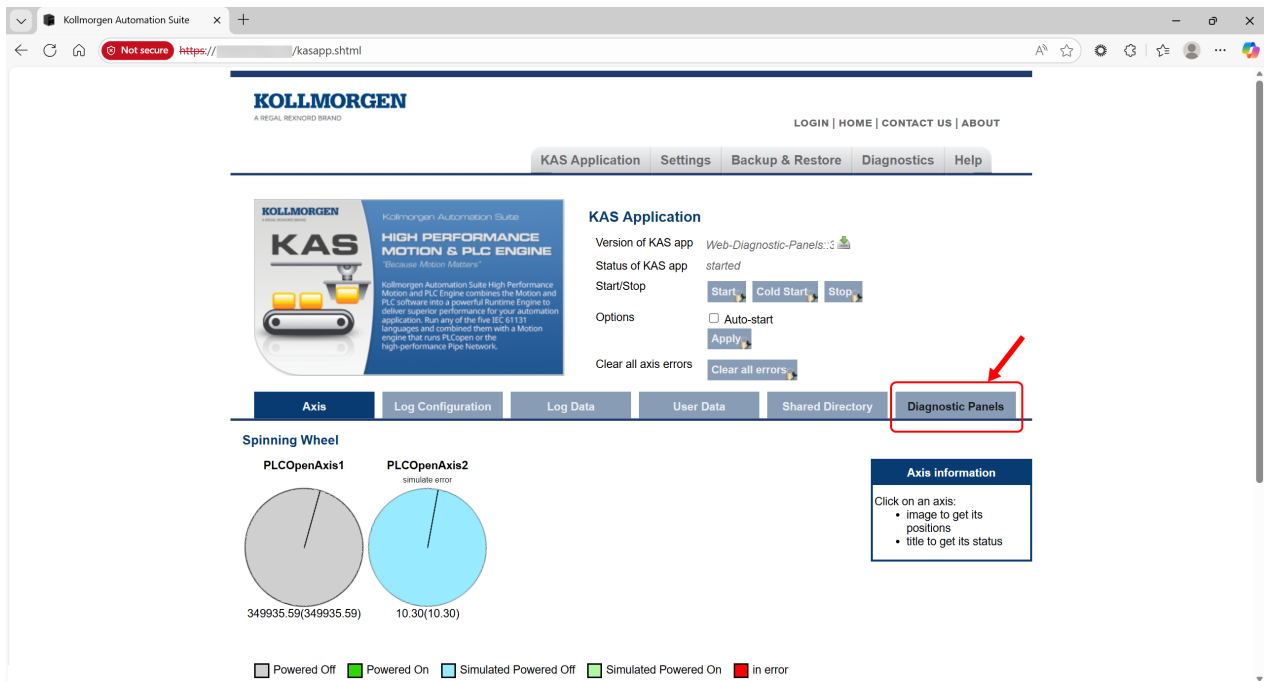

Figure 2-11: Diagnostic Panels sub-tab
4. Click the **Diagnostic Panels** sub-tab on the right of the window. (Figure 2-11)
- This is indicated by the message Connection is closed displayed on the top bar. (Figure 2-11)